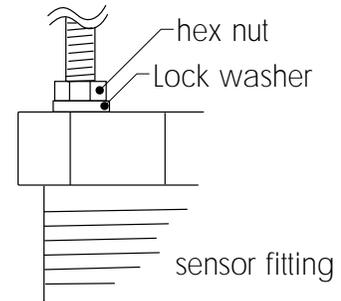

Fig. 8
A. Thread one hex nut onto each of the three threaded rods included in package. Install threaded rod with a lock washer onto the sensor fitting. Secure rods in place by tightening each hex nut against the sensor fitting. (Fig. 8)
C. Wipe the sensor body with a dry, clean cloth. Orient the alignment hole on the sensor flange to point **downstream**. Place the slotted flange over the threaded rods. Lower the sensor into the fitting until the sensor flange rests on the lower hex and jam nuts. (Fig. 8)